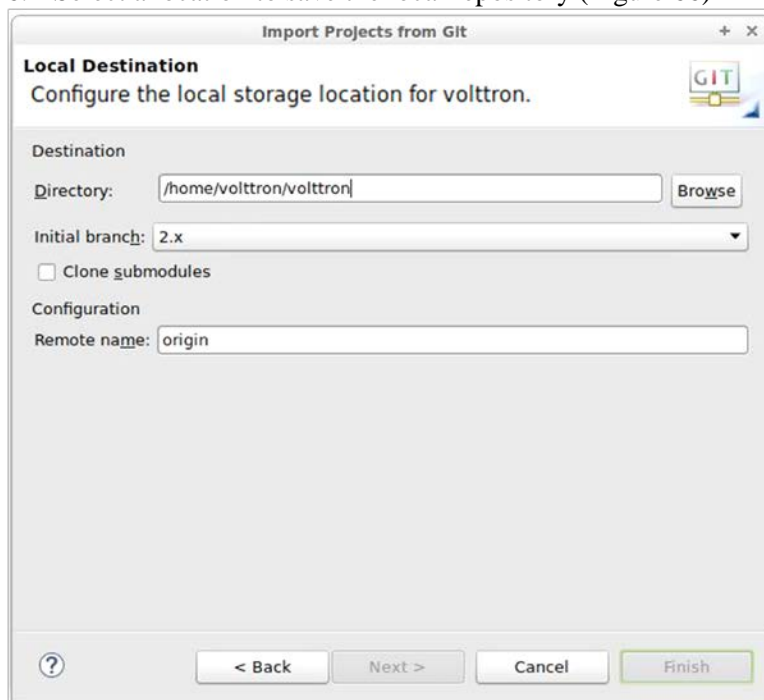

Figure 66: Checking Out VOLTRON with Eclipse from GitHub (continued)
6. Select a location to save the local repository (Figure 66)